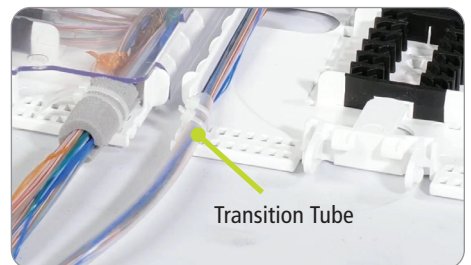

Figure 7
- Optional transition tube (Figure 7)